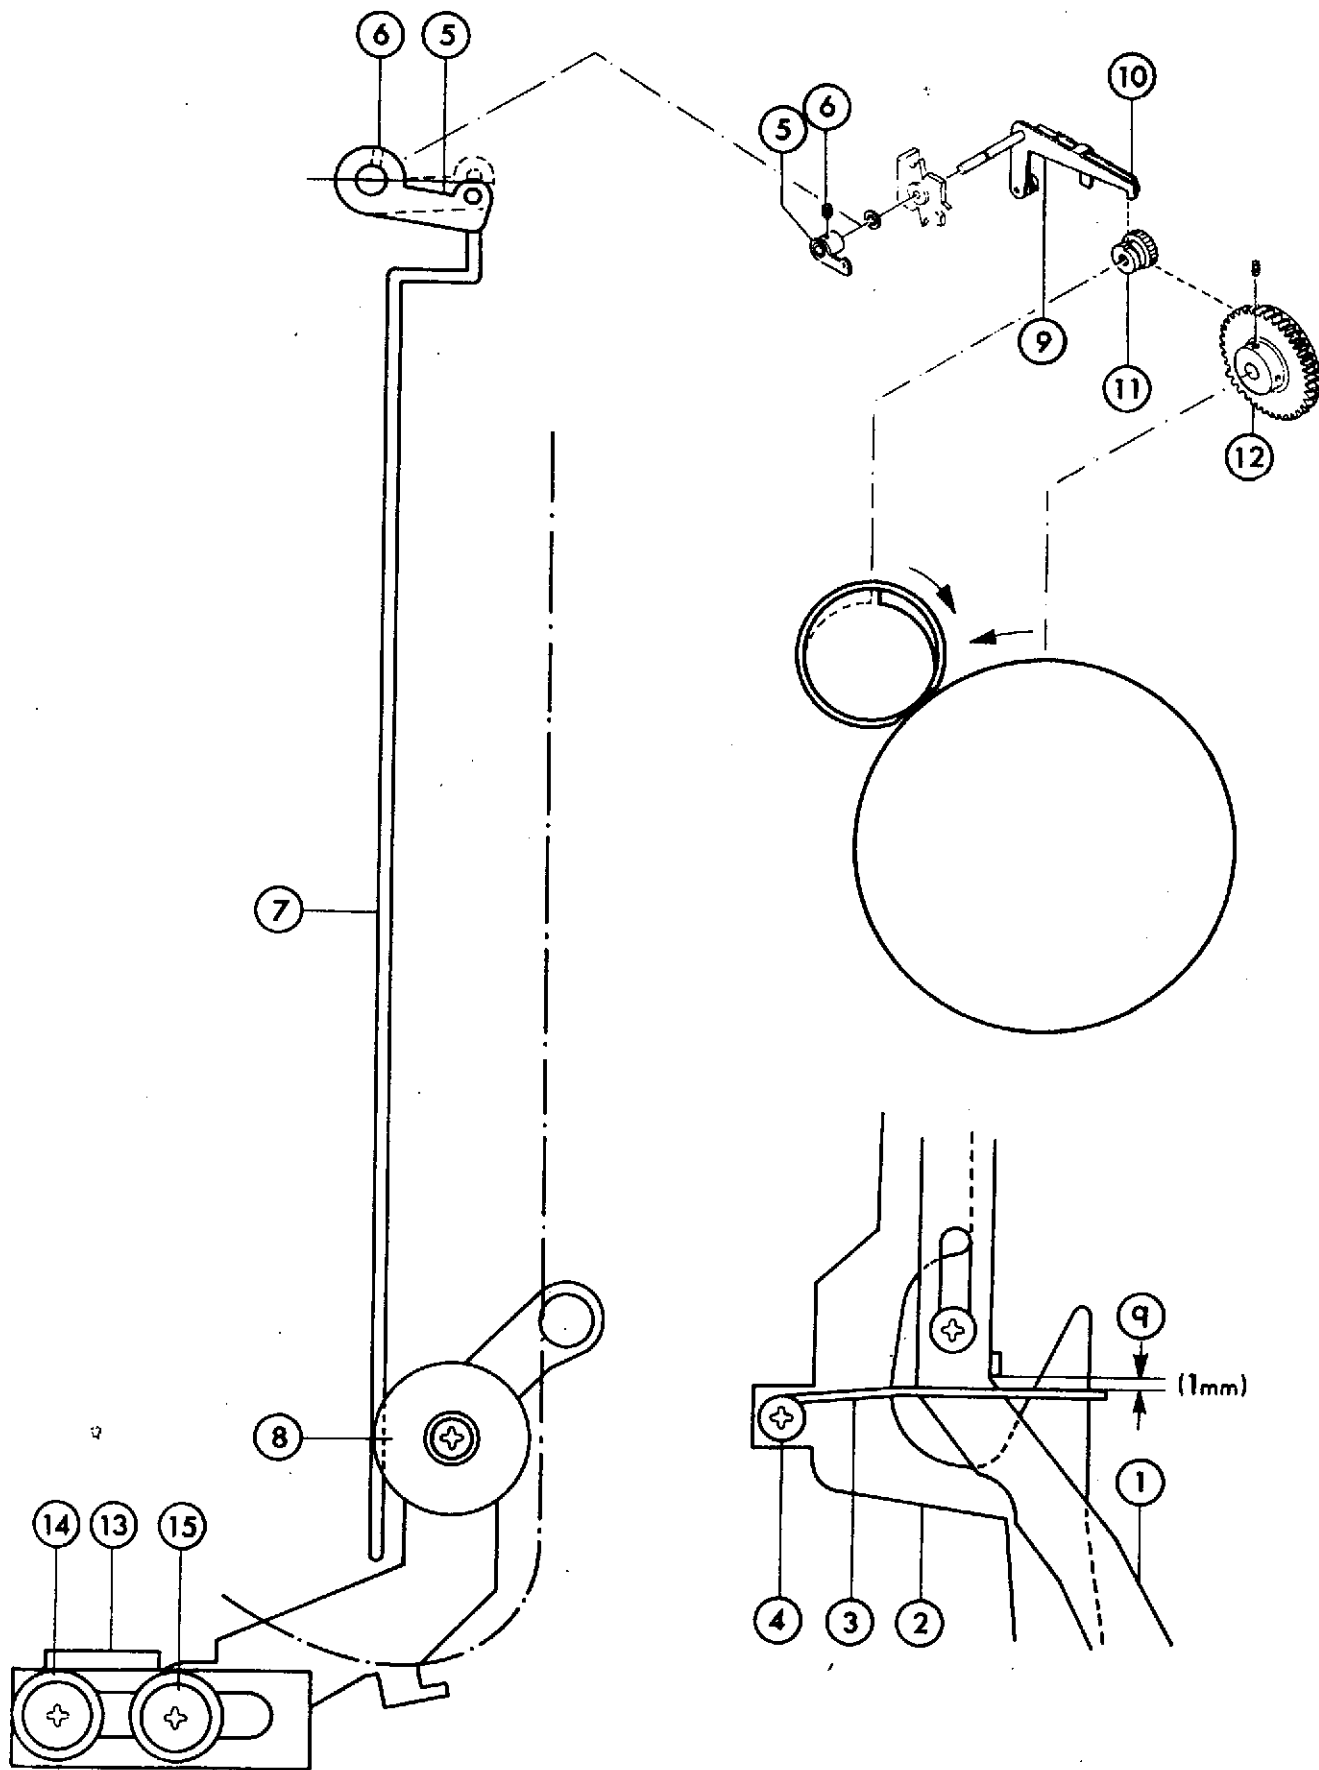

Fig. 25
- \* Adjust the position of Fig. 25-3 to keep approx. 1mm distance in (q) in Fig. 25 and fix Fig. 25-3 with Fig. 25-4.
- \* Make certain that the distance (q) in Fig. 25 is maintained after Loop Restorer works several times.